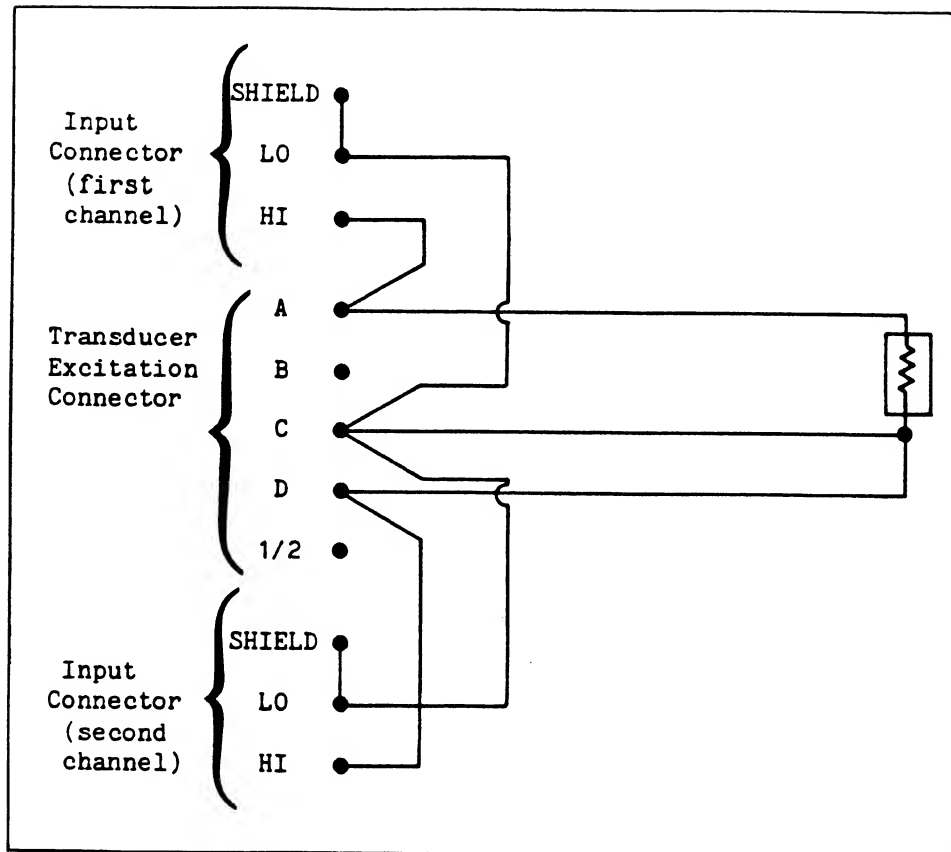

Figure 174-6. Wiring (3-Wire RTD, Constant Current)
- o RTD measurements using a 3-wire, constant current source must use the wiring shown in Figure 174-6.